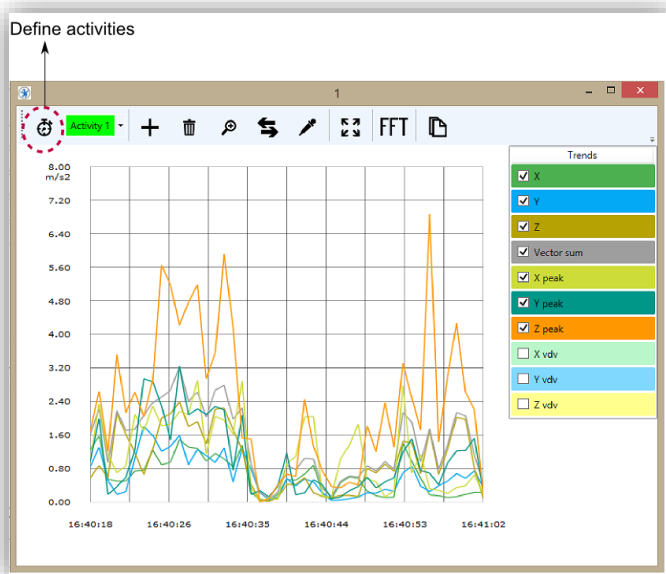

Figure5: Graph window- Define activities
2. It is possible to rename, add, and choose different colors for activities (please see figure 5&6).